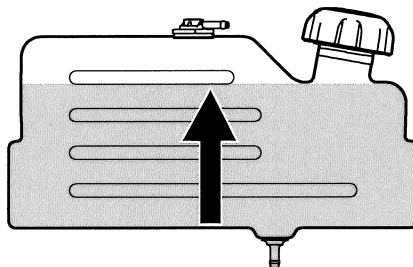

Figure 2-9
2. Fill the fuel tank with gasoline. Use only clean, fresh (no more than 30 days old), unleaded gasoline. Fill tank to the base of the filler neck to allow space for fuel expansion. DO NOT TOP OFF THE TANK WITH FUEL. See Figure 2-9.